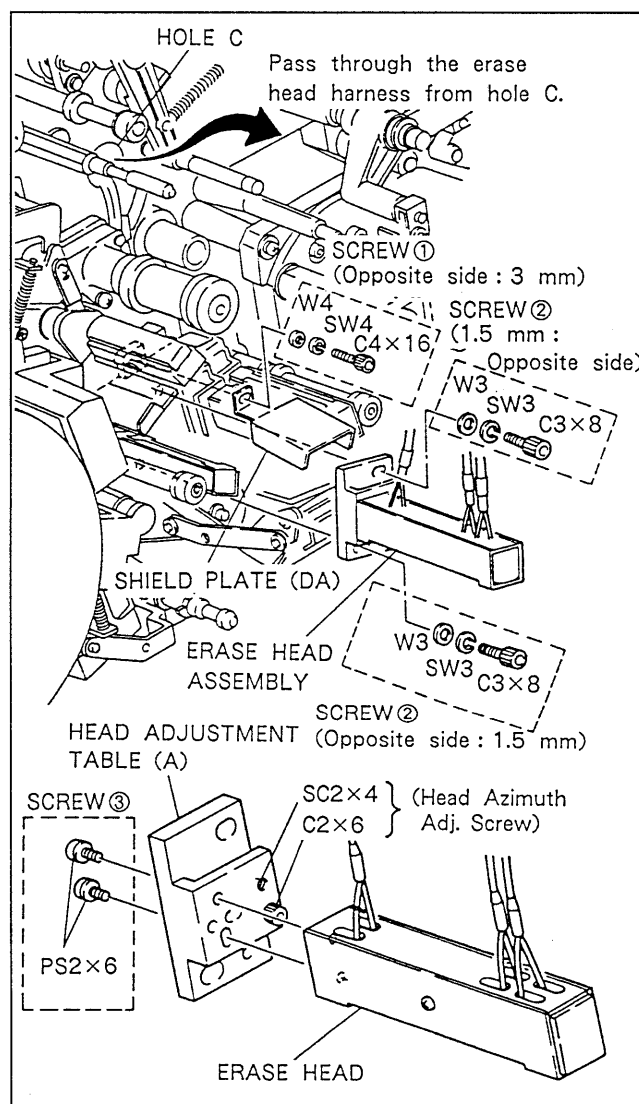
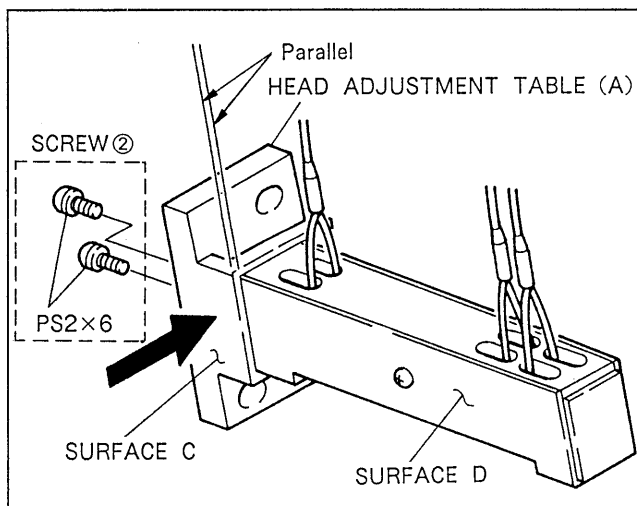

Fig. 6-15-2. Erase Head Assembly Replacement
Fig. 6-15-4. Erase Head Mounting Position Adjustment
3. Remove screw ① (including spring washer and flat washer) and remove the shield plate (DA) shown in Fig. 6-15-2.
8. Secure the erase head temporarily onto the head adjustment table (A) with two screws ② shown in Fig. 6-15-4 (Once tightening the two screws and then loosen for 1/4 to 1/2 rotation.).
9. Push the erase head to the direction of arrow and tighten two screws ② where the edge surface D of the erase head becomes visually parallel with the edge surface C of head adjustment table (A).
10. Pass the erase head harness through the hole C shown in Fig. 6-15-2.
13. Secure the shield plate (DA) with screw ① (including spring washer and flat washer) as shown in Fig. 6-15-2.